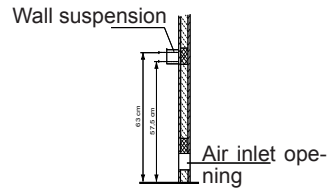

Fig. 2
1. Screw the wall bracket tight per Fig. 2 + 3 centrally over the air inlet opening with the enclosed chipboard screws.